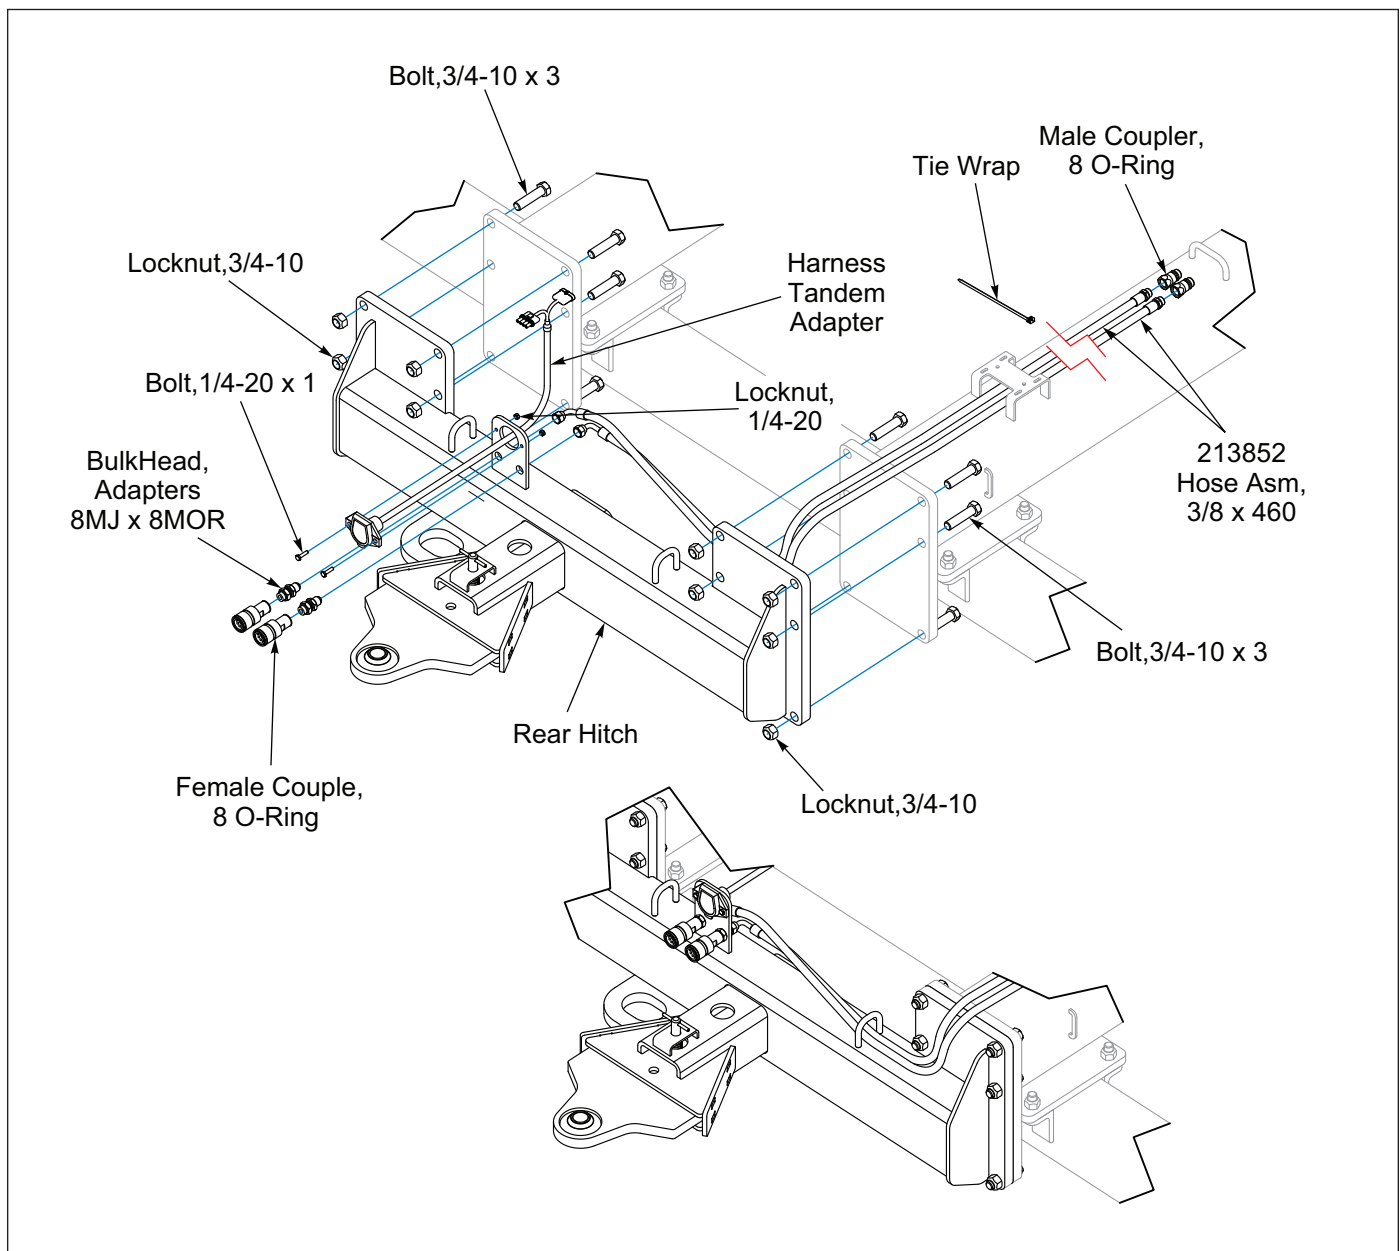

Figure 2-99: Rear Hitch Installation - Optional
1. Position the Rear Hitch to the rear frame hitch plates, insert twelve 3/4-10 x 3 Bolts secure with Locknuts. **See Figure 2-99.**